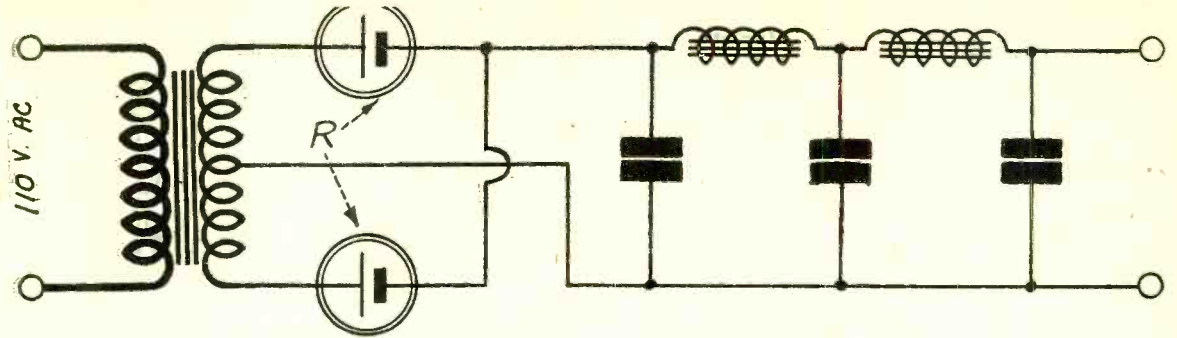

FIG. 703
(1) Fig. 703 shows the circuit of a full-wave rectifier using two electrolytic rectifiers R.